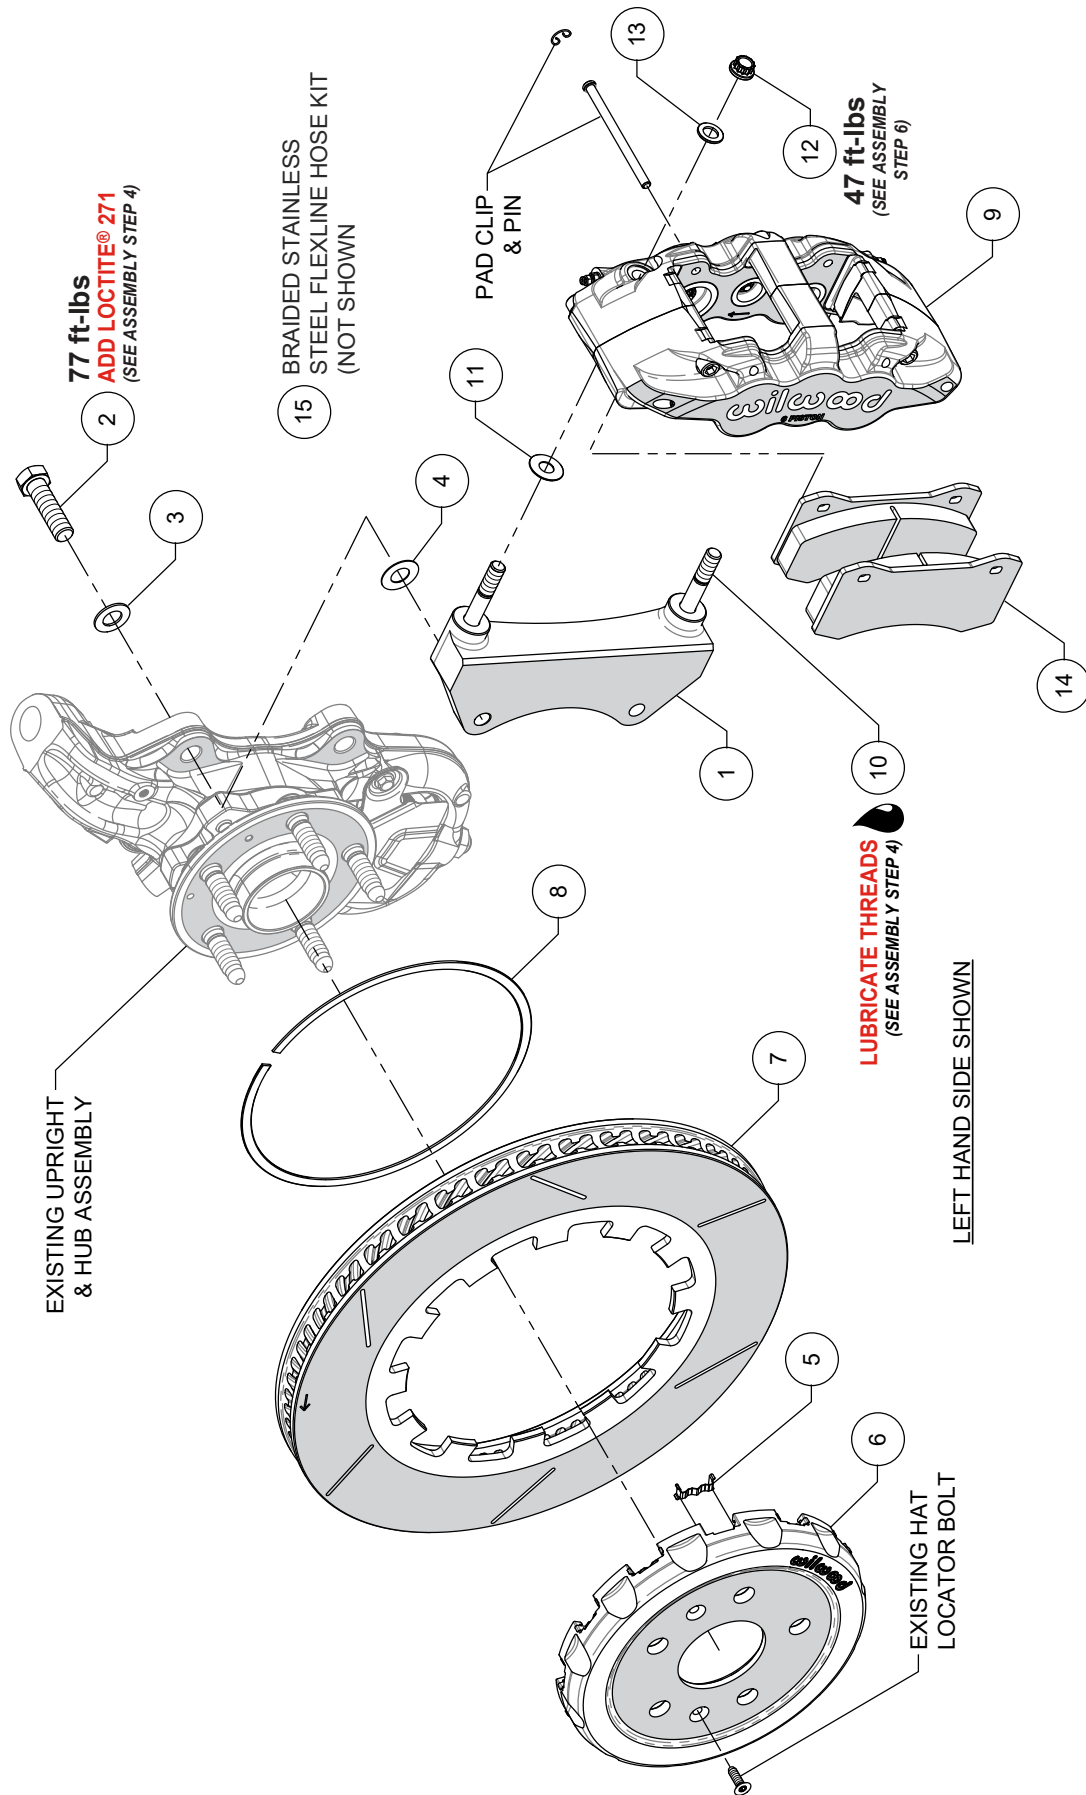

Figure 1. Typical Installation Configuration
NOTE: Numbers in parenthesis refer to the parts list and Figure 1 on the preceding pages.
STEP 1 The caliper mount bracket (1) should initially be installed with clean, dry threads on the mounting bolts. Orient the bracket, as shown in Figure 1 and Photo 1, and install using bolts (2) and washers (3). Initially place one .029" thick shim (4) on each bolt
between the bracket and upright, Figure 1. Temporarily tighten the mounting bolts. **NOTE:** The bracket must fit squarely against the mount bosses on the upright. Inspect for interference from casting irregularities, machining ridges, burrs, etc. Later, after the caliper alignment has been checked, the mount bolts will be secured using red *Loctite*® 271.
STEP 2 Insert the dynamic mount wear clips (5) into the slots in the hat (6), Photos 2 and 3. Orient the rotor (7) as shown in Figure 1 and Photo 4, with the flush side of mount lugs facing the hat. Secure the rotor to the hat using the snap ring (8) by simultaneously pushing down on the rotor and installing the ring into the groove in the hat, as shown in Photo 5. **Carefully inspect snap ring to ensure complete engagement in the groove.**
STEP 3 Slide the hat/rotor assembly onto the axle hub, Photo 6. **NOTE:** The hat must fit flush against the axle hub flange or excessive rotor run out may result. Install the existing OEM hat locator screw, as shown in Figure 1, to keep the hat/rotor assembly in place while continuing with the installation.
STEP 4 NOTE: This kit contains distinct right and left hand calipers that must be mounted in a specific direction, as described below. Lubricate the caliper mounting studs (10) with lightweight oil. Initially place two .030" thick shims (11) on each stud between the caliper (9) and the bracket (1), as shown in Figure 1 and Photo 7. Mount the caliper (9) onto the bracket (1) using lock nuts (12) and washers (13), Figure 1. Temporarily tighten the lock nuts. Ensure that the caliper is mounted so the largest pistons are at the rotor exit end of the caliper, in relation to the forward direction of the rotor. View the rotor through the top opening of the caliper. The rotor should be centered in the caliper, Photo 8. If not, adjust by adding or subtracting shims (4) between the bracket and the
upright. Always use the same amount of shims on each of the two mounting bolts. Once the caliper alignment is correct, remove the bracket mounting bolts (2) one at a time, apply red *Loctite*® 271 to the threads, and torque to value shown in Figure 1.
STEP 5 Remove the caliper (9), then remove the two pad retaining pins from the caliper by carefully popping out the pin retaining clips and sliding out the pins, Figure 1. Insert the brake pads (14) into the caliper from the bottom, with the friction material facing the rotor, as shown in Photo 9. Secure the brake pads in place with the pad retaining pins and clips, Figure 1 and Photo 10.
STEP 6 Reinstall the caliper onto the caliper mounting bracket and temporarily tighten the lock nuts (12). Check that the top of the brake pad is flush with the outside diameter of the rotor, Photo 11. If not, adjust by adding or subtracting shims (11) between the caliper and the bracket. After the caliper pad height is set, torque the caliper lock nuts (12) to value shown in Figure 1.